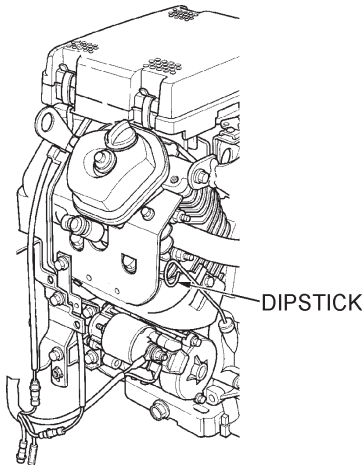

Figure 7. Engine Oil Dipstick (Removal)
2. Remove the dipstick from its holder (Figure 7) and wipe it clean.